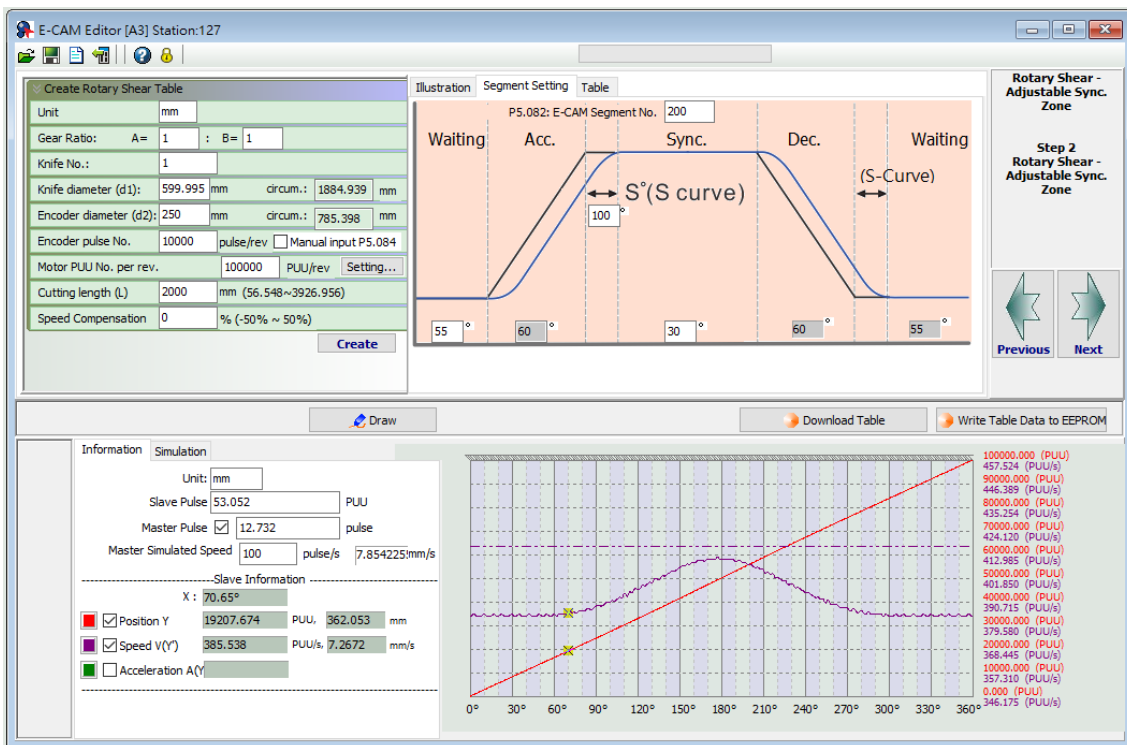

Figure 7.3.7.11 ASDA-Soft setting interface for [Rotary Shear - Adjustable Sync. Zone]
This table creation method is for generating an E-Cam curve with adjustable synchronous speed zone. You can use ASDA-Soft to create the table. The parameter setting for the rotary shear curve is similar to the setting of that without the synchronous speed zone, as shown in Figure 7.3.7.11. The software automatically limits the cutting length by referring to the ratio (R) of the cutting length (L) and the arc length between cutter ends (a);  $R = L / a$ .  $1.88 > R \times \text{Speed compensation } (V_c)$ .